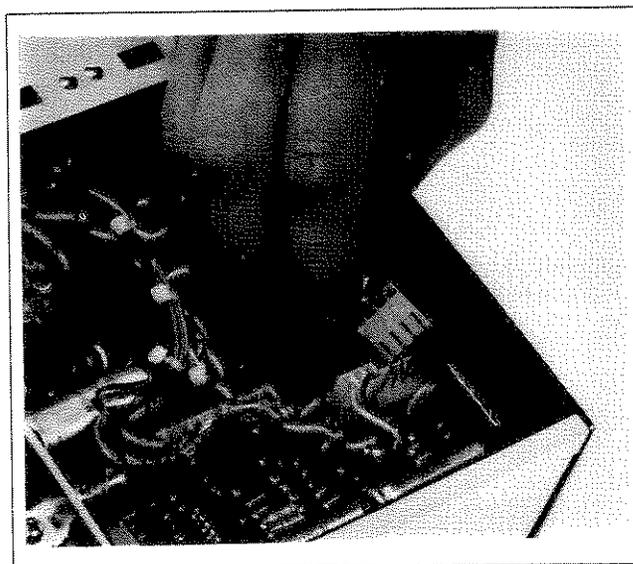

Figure 5-8. Autogrip Table Removal
- c. Autogrip Table — set machine on edge. Remove bottom cover and disconnect two red wires (connector A1J5) on the power supply PCA A1 (Part No. 07010-20300) from electrostatic table. (See Figure 5-8). Remove four screws securing the Autogrip table. Slide the pen carriage to the left, and ease platen up and out on the right side.